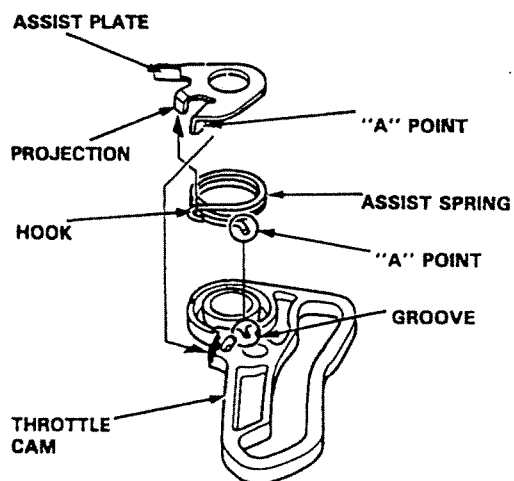

Fig. 32-14. Throttle Cam Details
The bore of the throttle cam (3) Should be greased and installed to the bolt followed by the assist spring (4) with its hook located on the cam projection (Fig. 32-14).